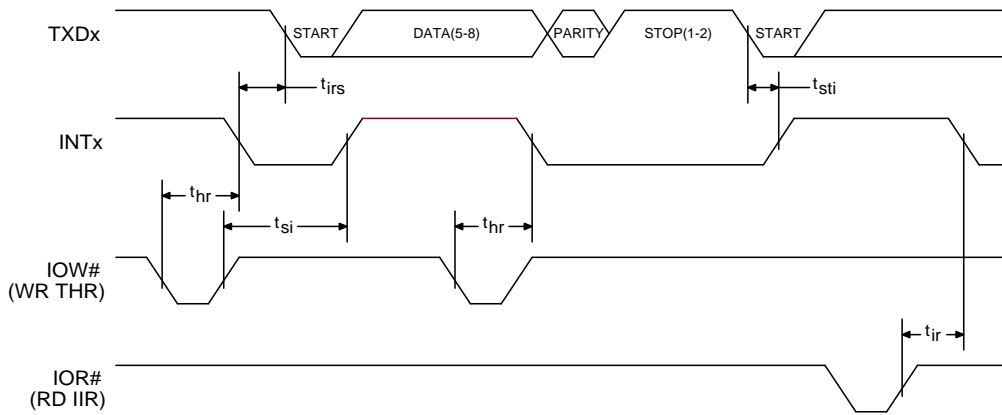

Fig 3. Transmitter Timing Waveforms
7.5. Transmitter switching characteristics over recommended ranges of operating free-air temperature and supply voltage (See Fig 3~5.)